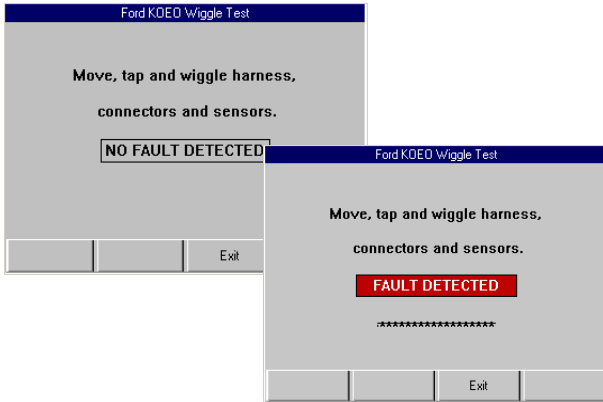

Figure 7.19: Wiggle Test Screens — No Fault and Fault Detected
- 7 Read the screens and follow all instructions. If necessary, use the **function keys** to answer any questions. Do this until the test screen appears (Figure 7.19 on page 44).